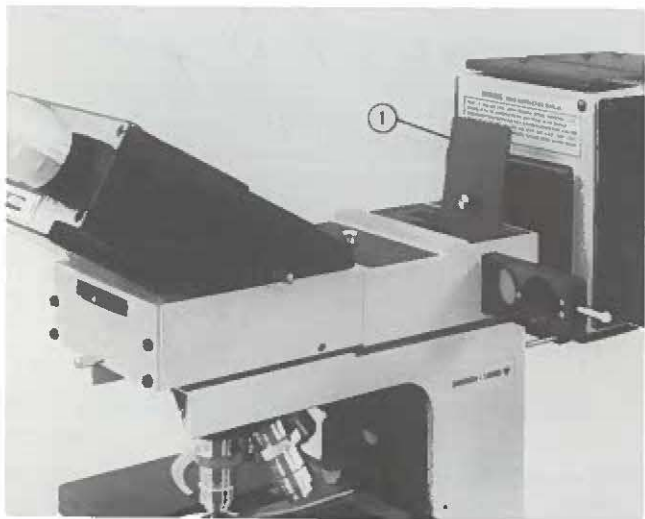

FIGURE 5-6 COVER OF EXCITER FILTER SLIDER IN OCCLUDER POSITION
5.5 Prevention of Specimen Fading To prevent specimen fading when observation is not in progress, the exciting energy may be blocked off by using the cover over the exciter filter slider as an occluder (See Figure 5-6).